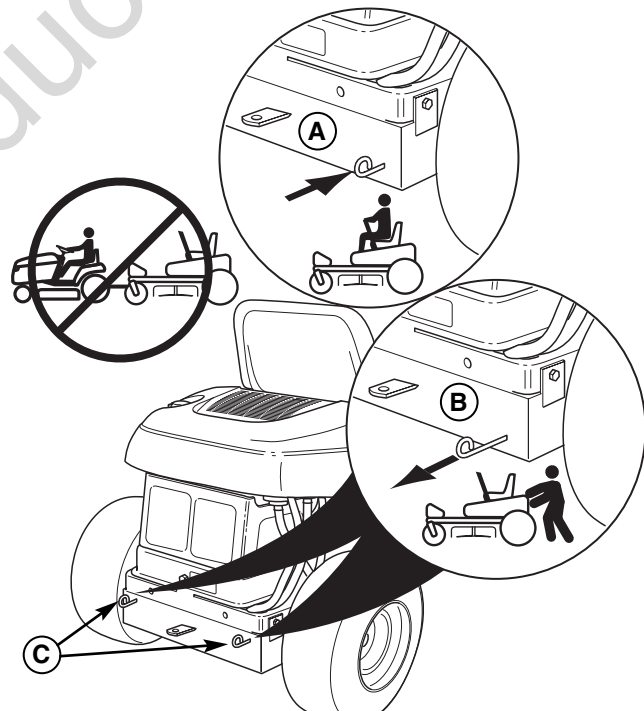

Figure 6. Transmission Release Levers
2. Locate the transmission release levers (C, Figure 6) at the rear of the unit.
3. Pull **both** levers back and down to release the transmissions (position B, Figure 6).
5. After moving the rider, set the ground speed control levers to START/PARK, engage the parking brake, and push **both** transmission release levers forward to re-engage the transmissions (position A, Figure 6).